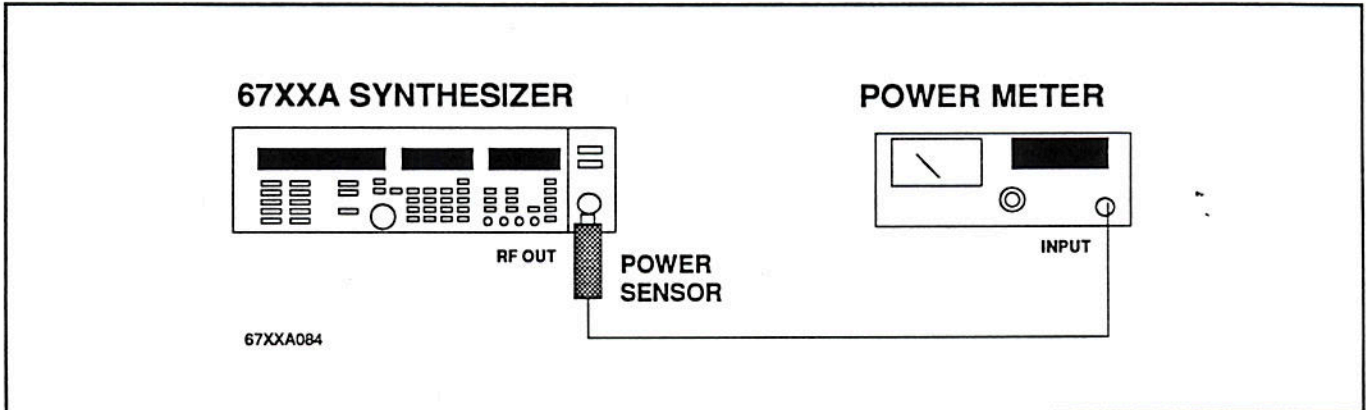

Figure 2-7. Equipment Setup for Power Level Accuracy and Flatness Verification
1. Connect the equipment as shown in Figure 2-7.